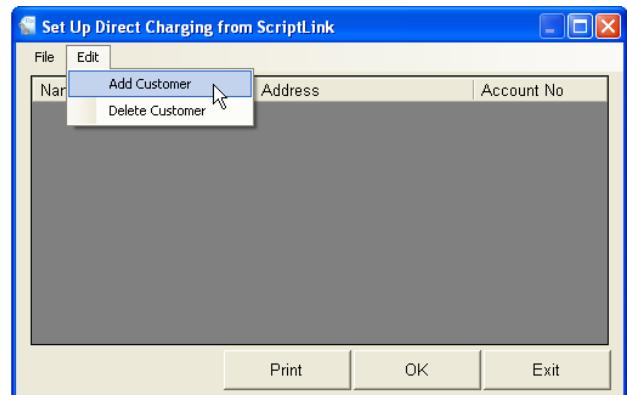

Figure 116
3. To setup a customer for direct charging select the Edit → Add Customer (see Figure 116).